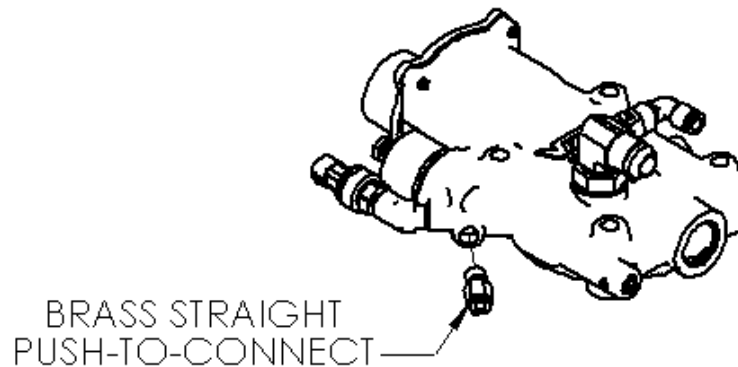

Fig 2. Brass fitting to be removed.
6. Remove brass straight push-to-connect fitting from inlet valve. Please see Fig 2 for reference.